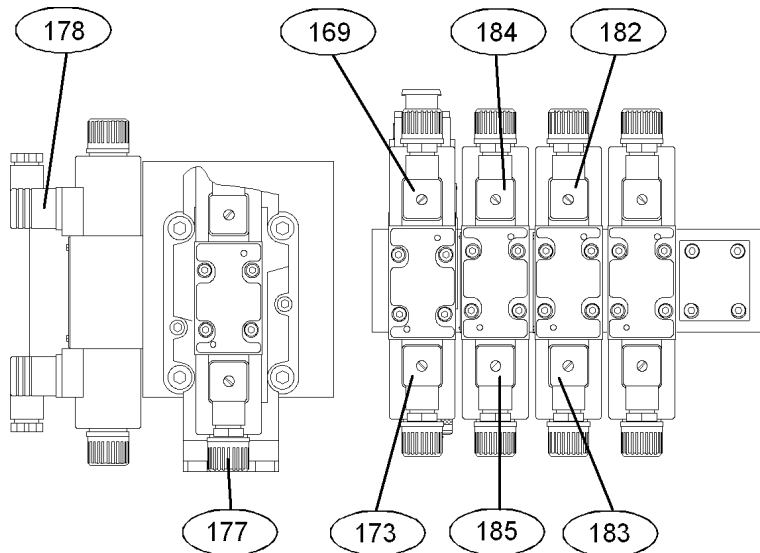

Fig. 79
Selector switch chute cover open Y 42 (184, Fig. 79) and unscrew the return valve choke across from the spool until the required speed is reached.
Selector switch chute cover open Y 41 (182, Fig. 79) and unscrew the return valve choke across from the spool until the required speed is reached.
Activate selector switch chute cover closing Y 40 (183, Fig. 79) and unscrew the return valve choke across from the spool until the required speed is reached.
- Close the back chute covers of the filter press: After front chute covers are closed Y 39 (185, Fig. 79) activate selector switch chute covers closing and unscrew the return valve choke across from the spool until the required speed is reached.